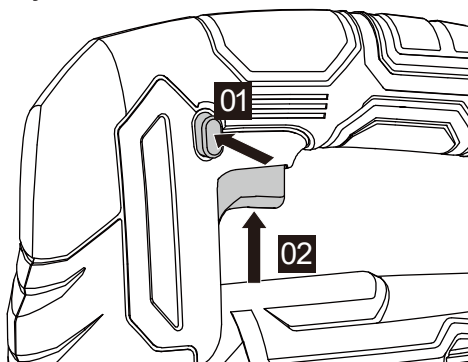

Figure 7
2. SWITCHING ON AND OFF (SEE FIG. 7)